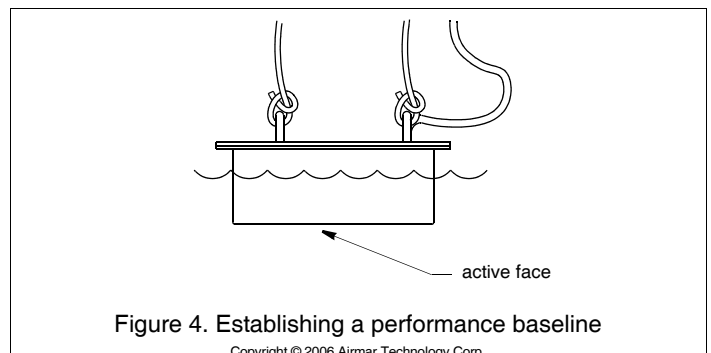

Figure 4. Establishing a performance baseline
3. Tie a rope securely around the handles of the transducer (see Figure 4). Lower it over the side of the boat until the active face is submerged in the water.